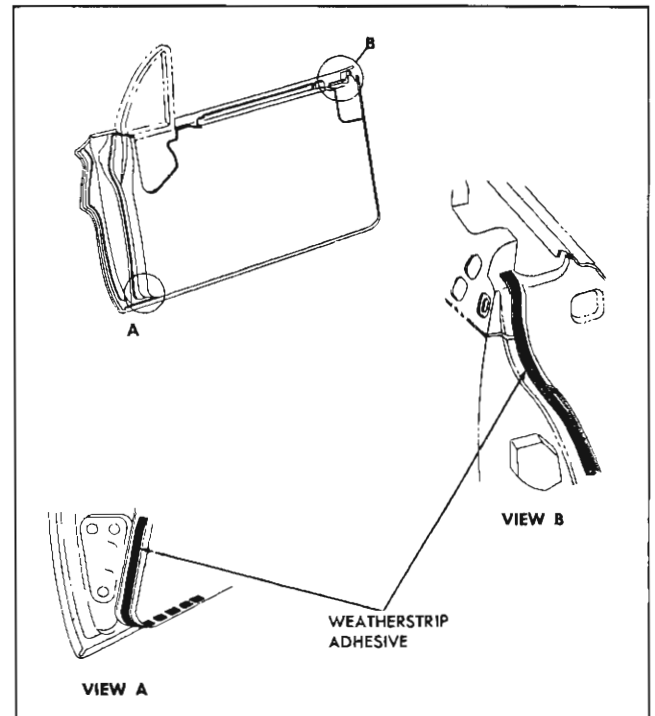

Fig. 19—Front Door Weatherstrip Cementing
2. Carefully break cement bonds securing weatherstrip to door. A flat-bladed tool, such as a putty knife, will prove helpful in breaking cement bond (fig. 19).
weatherstrip adhesive to lock pillar facing of door. Begin adhesive application at belt line and continue down door for approximately seven to nine inches (fig. 19).